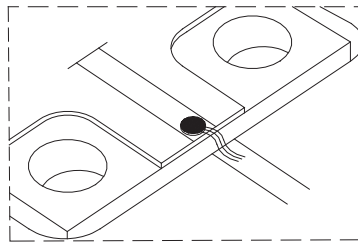

Figure 6.
4. The fourth method also uses the gold plated Kovar strip soldered to the end of the mixer traces. Each interface is then achieved using 3 side-by-side gold wire bonds (figure 6). Three gold side-by-side wires provide sufficiently low inductance for applications up to 18 GHz.